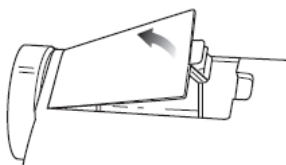

Fig. 12
3. Push in the locking tab and lift off the battery compartment cover. (Fig. 12)